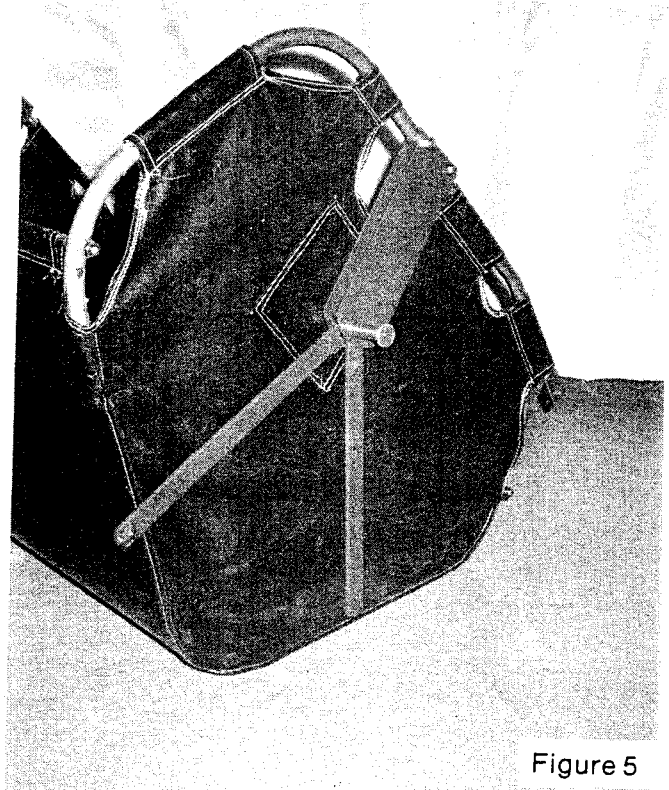

Figure 5
A) Place debris hamper (120) on flat surface and unroll.
B) Assemble two top hamper tubes (108) to two middle hamper tubes (106) and secure with two self tapping screws (86).
C) Holding right side panel of hamper up, from the back insert one of the tube assemblies through the top two loops only. Position right hamper pivot bracket assembly (105) with pivot pin (115) away from hamper side. Slide tube on through bracket and front two loops of hamper. Rotate tubes so that middle hamper tube (106) is on the inside of hamper.
D) Align holes in top tube (108) with holes in pivot bracket assembly (105). Assemble one bolt (93) with one lock washer (95) and one acorn nut (92) in top hole, finger tight only. See Figure 5.
E) Assemble one bottom hamper tube (107) onto end of middle hamper tube (106), and push into corner of hamper.
F) Repeat operations C through E for left side panel using left hamper pivot bracket assembly (104) instead.